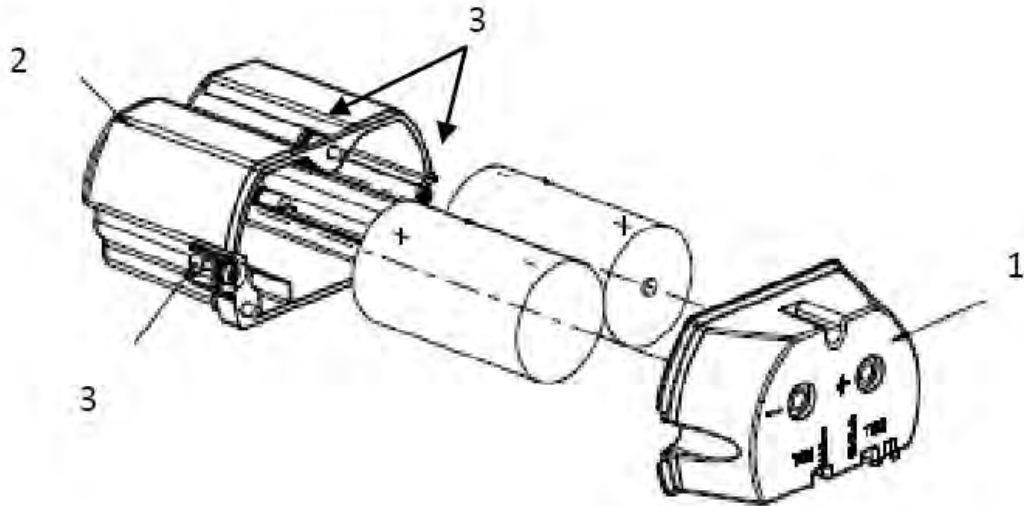

Figure 10: IS Battery Pack
- 6 Remove top of battery pack by using a #1 Phillips or 1/8" slotted screwdriver for the screws identified as #3 in Figure 10.
- 10 Insert the Battery pack into the transmitter. Reattach the screws as indicated in Figure 10, item 3, to 0.4 to 0.6 N-M (3.5 – 5.3 Lb-in).